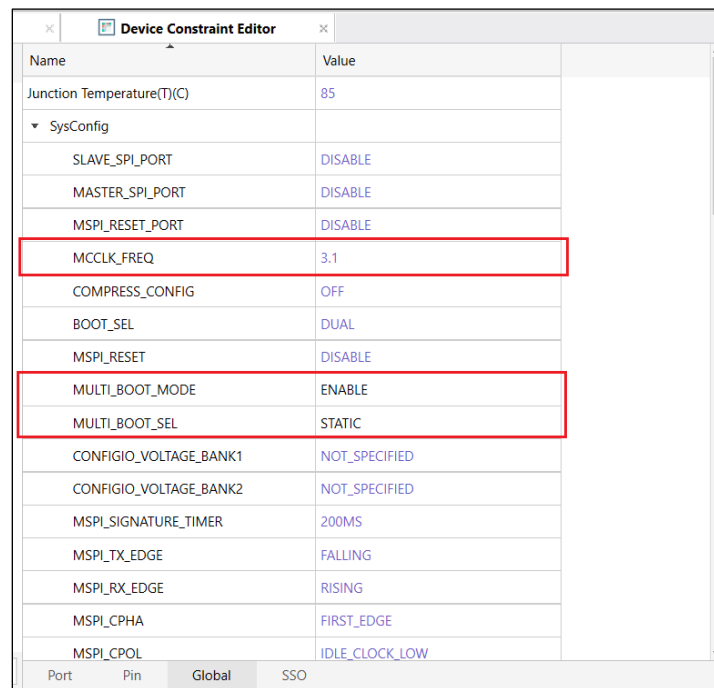

Figure 7.11. Configuring MCCLK_FREQ, MULTI_BOOT_MODE, and MULTI_BOOT_SEL in Device Constraint Editor
- MCCLK_FREQ, MULTI_BOOT_MODE, and MULTI_BOOT_SEL can be configured using the Global tab of the Device Constraint Editor in the Lattice Radiant software (Figure 7.11).